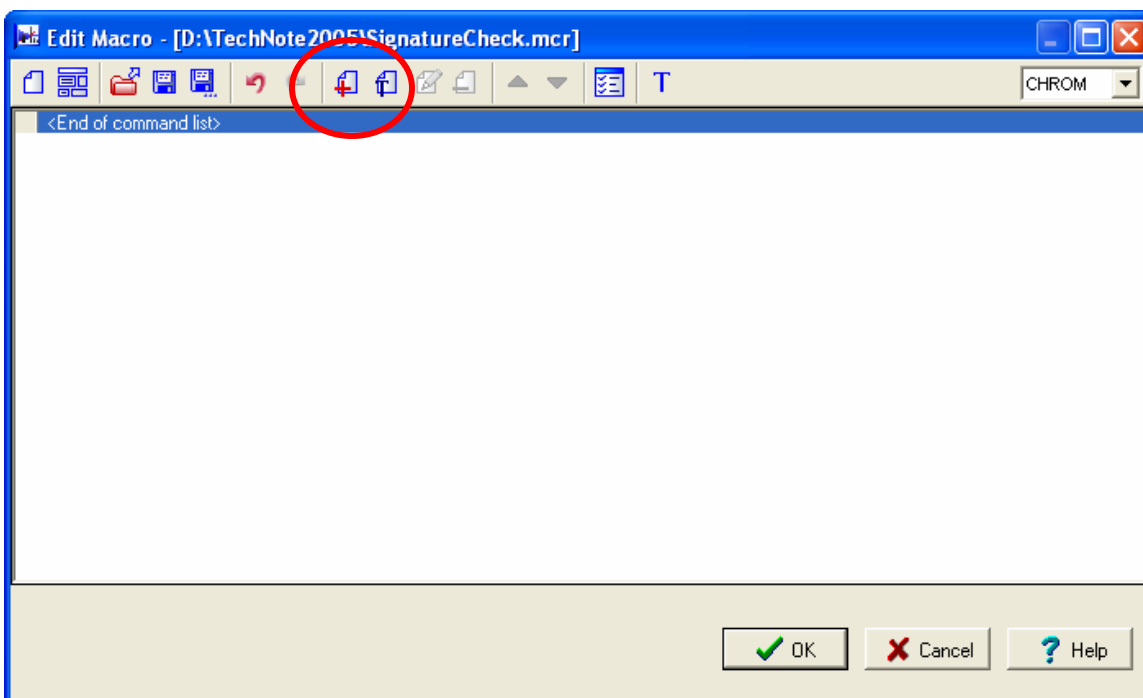
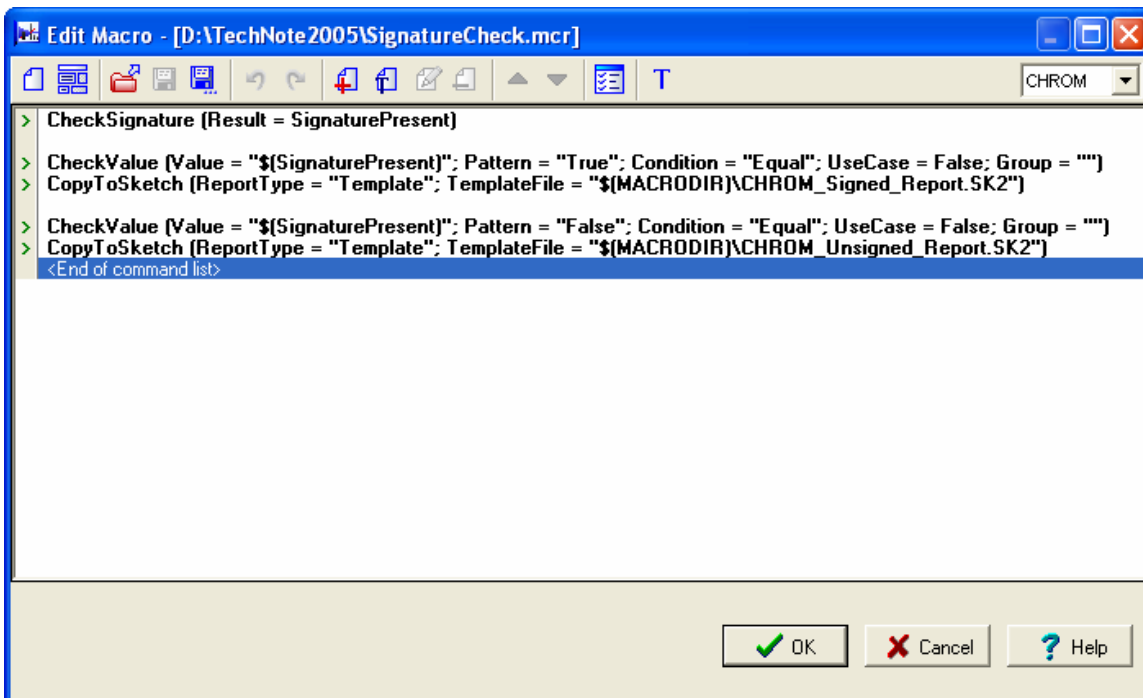

Figure 5: The blank Macro editor.
Figure 6: The completed macro showing macro commands in black.
- Click **Insert Macro Command** (shown in Figure 5) and start building the macro as described in Figure 6.